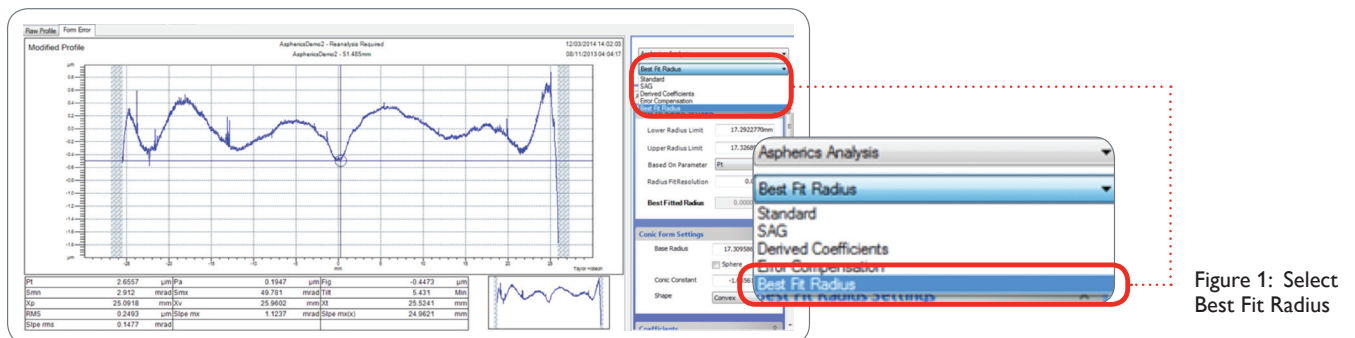

Figure 1: Select Best Fit Radius
- 1 Open the analysed trace in the AAU and use the dropdown box to select **Best Fit Radius**. (See Figure 1).